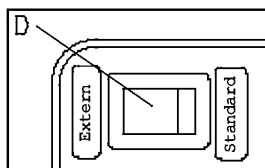

Fig. 11
- Set switch **D** on the rear of the DR 100 to "external". **Fig. 11**